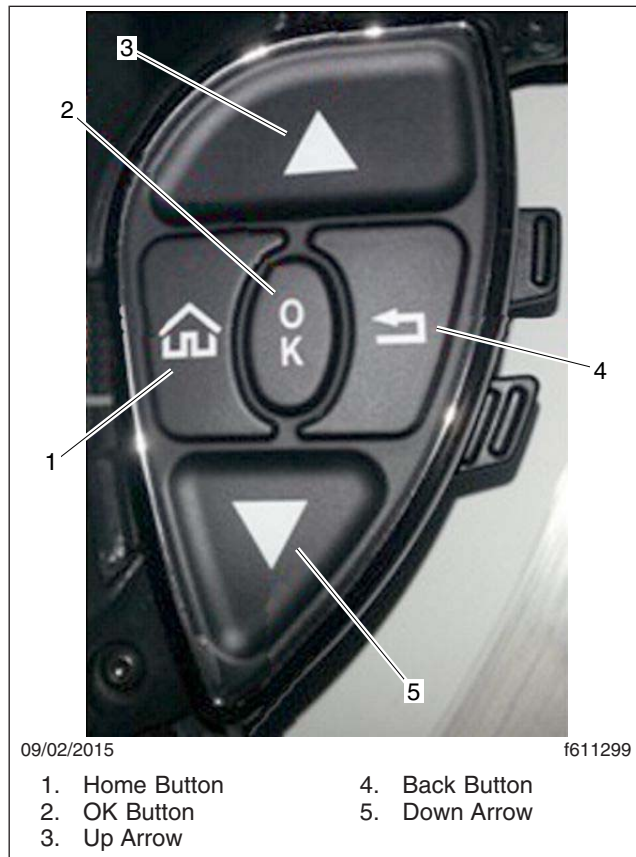

Fig. 12, Steering Wheel Buttons
2. With the ignition on, insert the flash drive labeled '250k, Step 1' in the open USB port on the Viper II module. Using the buttons on the steering wheel, shown in **Fig. 12**, navigate to Diagnostics, then System Information.
3. Hold the OK button to begin the update. See **Fig. 12**.
7. Using the buttons on the steering wheel, shown in Fig. 12, navigate to Diagnostics, then System Information.
11. Using the buttons on the steering wheel, shown in Fig. 12, navigate to Diagnostics, then System Information.
8. With the ignition on, insert the flash drive labeled '500k, Step 1' in the open USB port on the Viper II module. Using the buttons on the steering wheel, shown in Fig. 12, navigate to Diagnostics, then System Information.
9. Hold the OK button to begin the update. See Fig. 12.
13. Using the buttons on the steering wheel, shown in Fig. 12, navigate to Diagnostics, then System Information.
17. Using the buttons on the steering wheel, shown in Fig. 12, navigate to Diagnostics, then System Information.
1. With the ignition in the OFF position, press and hold the up arrow, down arrow, and back button on the steering wheel, shown in Fig. 12, while turning the ignition to the ON position.